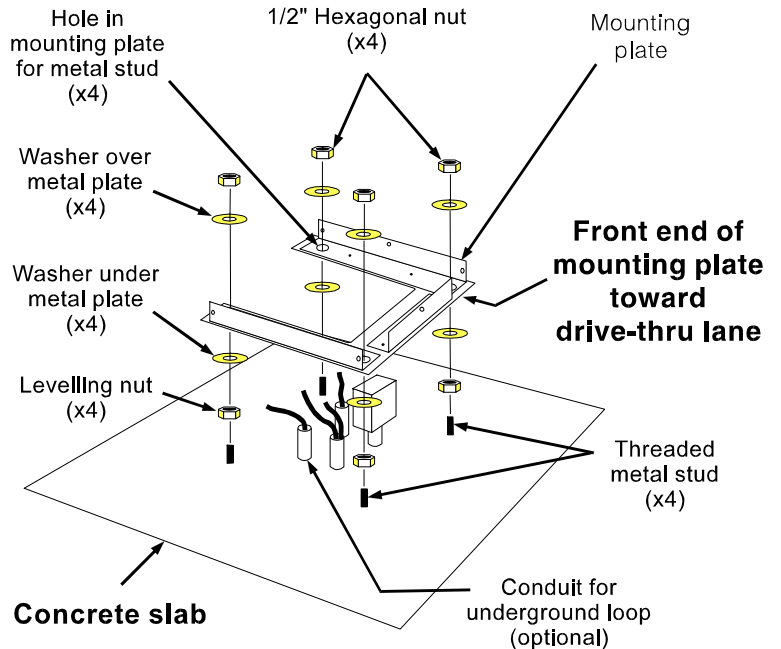

Figure 10. Placement of mounting plate on concrete slab
If the concrete slab has four threaded metal studs in a 6 inch (152.4 mm) square pattern, the standard mounting plate included with the speaker post will be installed as described below. Refer to Figure 10.
- ! Position the mounting plate on the concrete slab as shown in Figure 10, with its front end toward the drive-thru lane and the four studs going through the four largest holes in the plate. Use a level to adjust the positions of the levelling nuts until the plate is level.